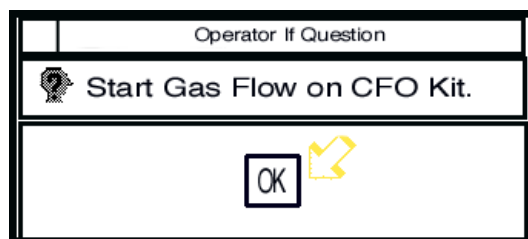

Figure 11
- 109 When the "Start Gas Flow on CFO Kit" dialog box appears, click on "OK." See the arrow in Figure 11. Go into the test cell and note the CFO pressure and temperature for use in the next step.